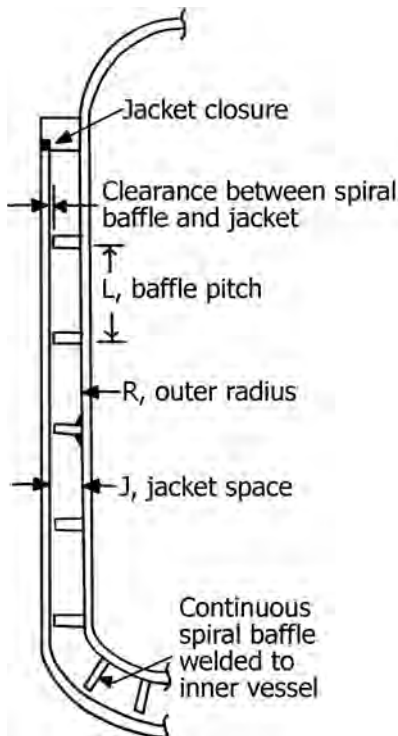

FIGURE 12.15 Conventional jacket with baffles. (Courtesy: Santosh Singh (process.santosh@googlemail.com).)
> Figure 12.15 illustrates a conventional jacket with baffles.
- Referring to Figure 12.15, the hydraulic radius is calculated as follows: